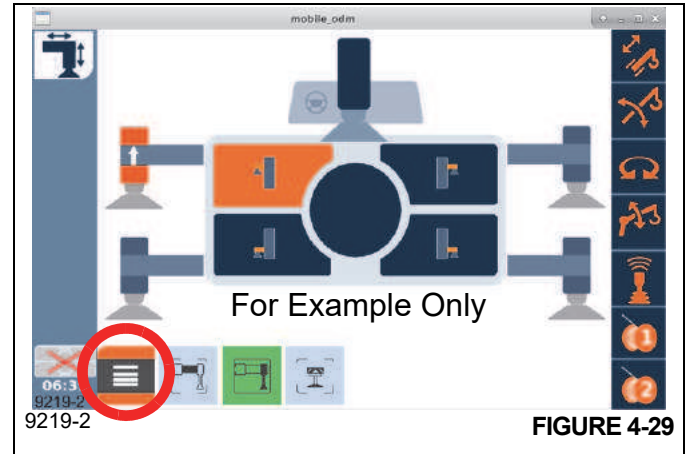

FIGURE 4-29
Using the Jog Dial (5), select the Menu Icon (Figure 4-29), (Icon will turn orange and is noted in the red circle), then press the Jog Dial (5), (Figure 4-22).
- Using the Arrow Buttons (4), (Figure 4-21), select the Menu Icon (Figure 4-29) (Icon will turn orange), then press the OK Button (5), (Figure 4-21).